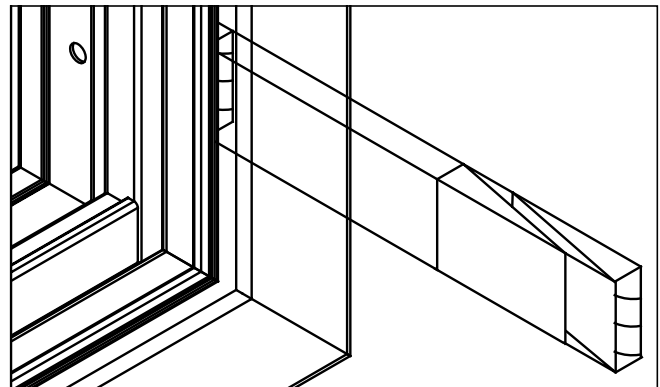

Figure 6
3. Place shims at the bottom corners of jambs behind the pre-drill screw holes in jamb. Drive the screws provided into the pre-drill holes in jambs at bottom corners. See figure 6. Make sure frame is square.